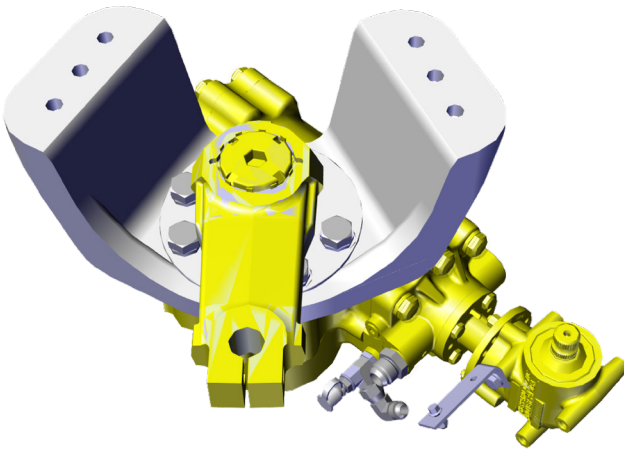

Figure 5
11. Remove steering gear and bracket from vehicle and place on workbench with bracket up. See Figure 5.